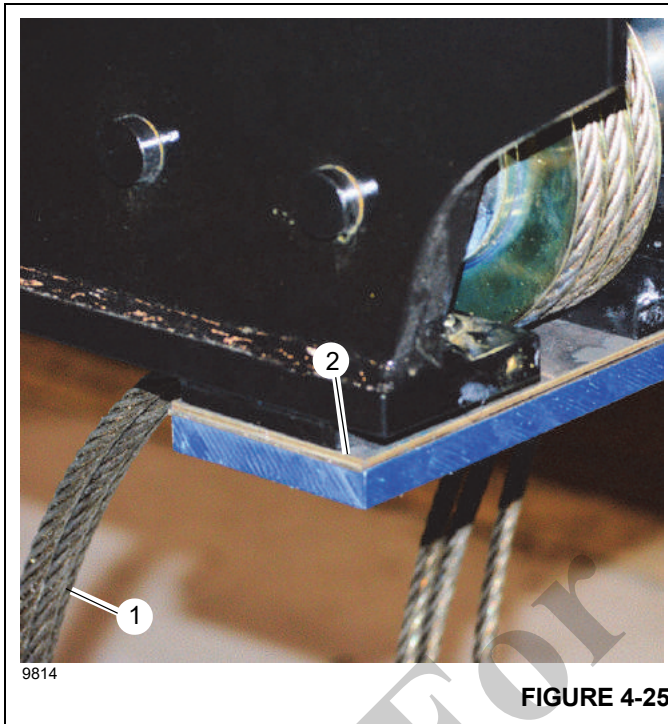

FIGURE 4-25
15. Install cap screws (11) and retract cable roller guides (12) into the base of the Tele 1 section boom.
16. Install two top wear pad mounting plates (52) and wear pads (53) using cap screws (54) and washers (55).
17. Install bottom wear pad (16) and shims (15) onto the base of the Tele 1 section boom using cap screws (14). Make sure the 3/2/1 retract cables (1, Figure 4-25) between the bottom of the Tele 1 section boom and the bottom wear pad shims (2).